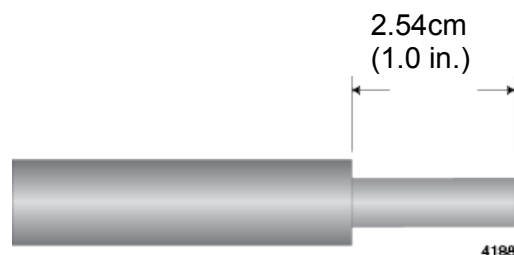

Figure 59. Stripping the Grounding Wire
1. Strip 2.54cm (1.0 in.) of insulation from the end of the solid grounding wire with a wire insulator stripper. Refer to Figure 59.